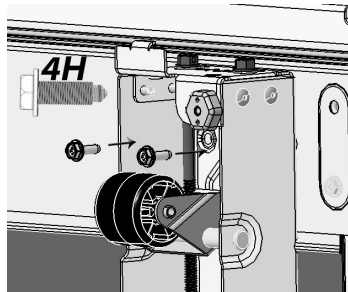
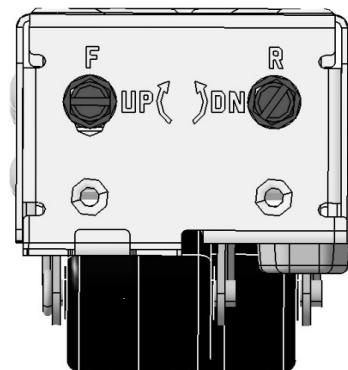

Fig. 4
Fig. 5
- b. Using the 4H bolts from step 1, fasten the front of the Leveler Assembly to the refrigerator/freezer using a $\frac{5}{16}$ " nut driver (Fig. 4). If more fastening space is required, rotate the bolt labeled **F** clockwise (Fig. 5) using a flathead screwdriver or a $\frac{3}{8}$ " socket wrench.